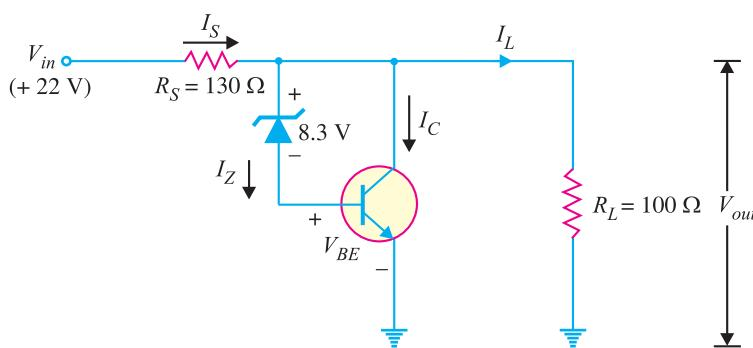

Fig. 17.20
**Example 17.18.** Determine the (i) regulated voltage and (ii) various currents for the shunt regulator shown in Fig. 17.20.